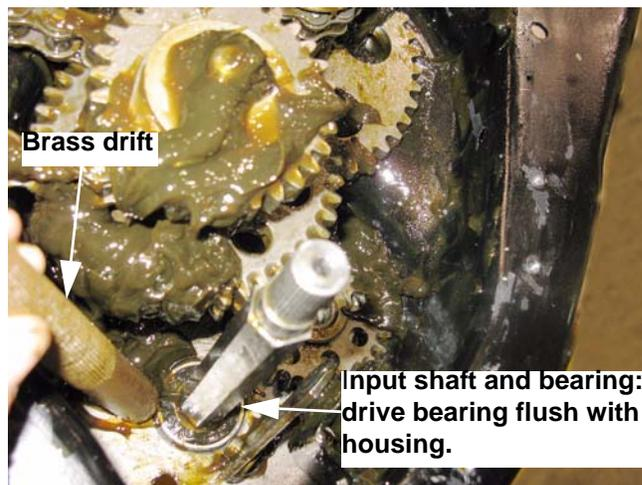

Figure 5.60
12. Drive the bearing into place: See Figure 5.60.